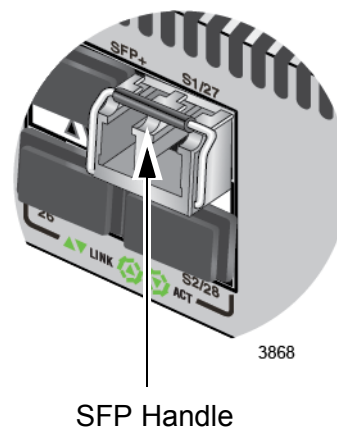

Figure 64. Positioning the Handle in the Upright Position
5. Verify the position of the handle on the SFP+ module. If the module is in the S1 slot, the handle should be in the upright position, as shown in Figure 64. If the transceiver is in the S2 slot, the handle should be in the down position.